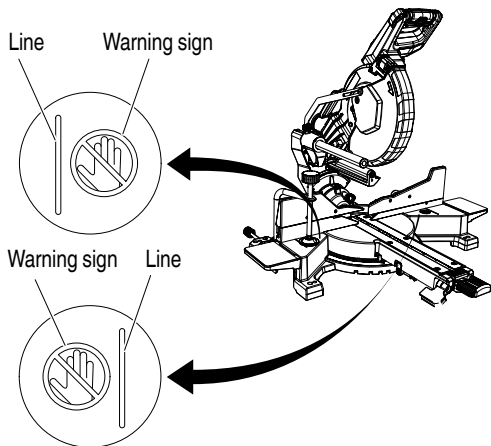

Fig. 28
- Never place your limbs inside of the line next to warning sign while the tool is being operated. This may cause hazardous conditions (see Fig. 28).